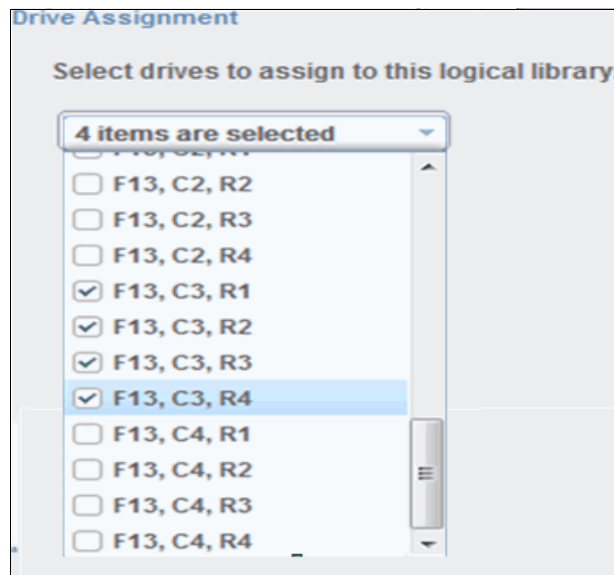

Figure 4-121 Custom drive settings
3. Use the Drive Assignment page to configure drives for the logical library, as shown in Figure 4-121. You can select all unassigned drives or select only the drives that you need. Only the unassigned drives of the type that was selected (LTO or 3592) are displayed.